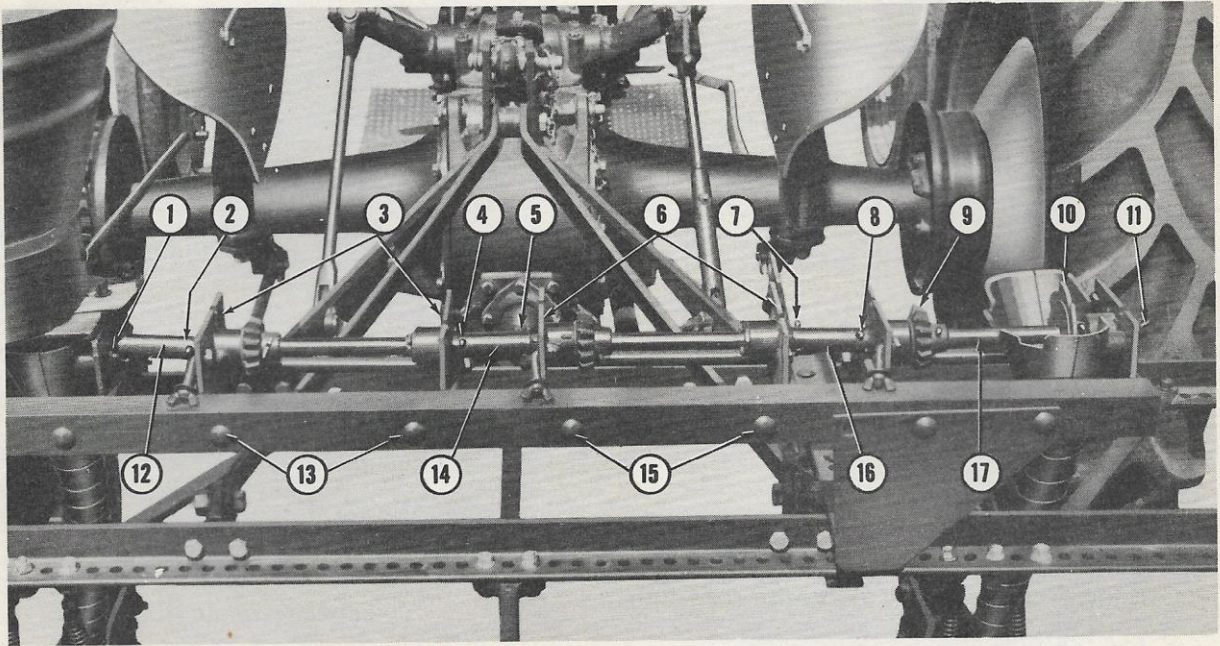

Figure 19
2. Remove the cotter pins from the pinion gear (9), picker wheel (10) and the right end of the drive shaft (11), Figure 19.
3. Slide the driveshaft (17), Figure 19, to the right, remove the long pipe and attach two fertilizer bases to the planter main frame as follows:
- a. Attach the left hand fertilizer base (3) to the planter angle with the bolts (13) as shown in Figure 19. Do not tighten the bolts at this time.
- b. Place the short pipe (12) between the drive shafts and secure with the cotter pins (1) and (2), Figure 19.
- c. Attach the right hand fertilizer base (6) to the planter angle with the bolts (15) as shown in Figure 19. Do not tighten the bolts at this time.
- d. Place the short pipe (14) between the fertilizer-base drive shafts and secure with the cotter pins (4) and (5), Figure 19.
- e. Tighten the nuts on bolts (13) and (15), Figure 19, and secure the left end of the short pipe (16) with the cotter pin (7).
- f. Drive the right hopper drive shaft (17) into former position and secure each end of the shaft with the cotter pins (8) and (11), Figure 19.
- g. Secure the pinion gear (9) and the picker wheel (10), Figure 19, with the cotter pins.